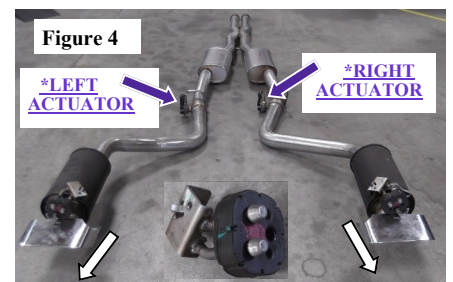

Figure 4
6. Remove left and right exhaust tips from the factory exhaust and install both tips to your new Borla exhaust system using the factory hardware. (See Fig.4)